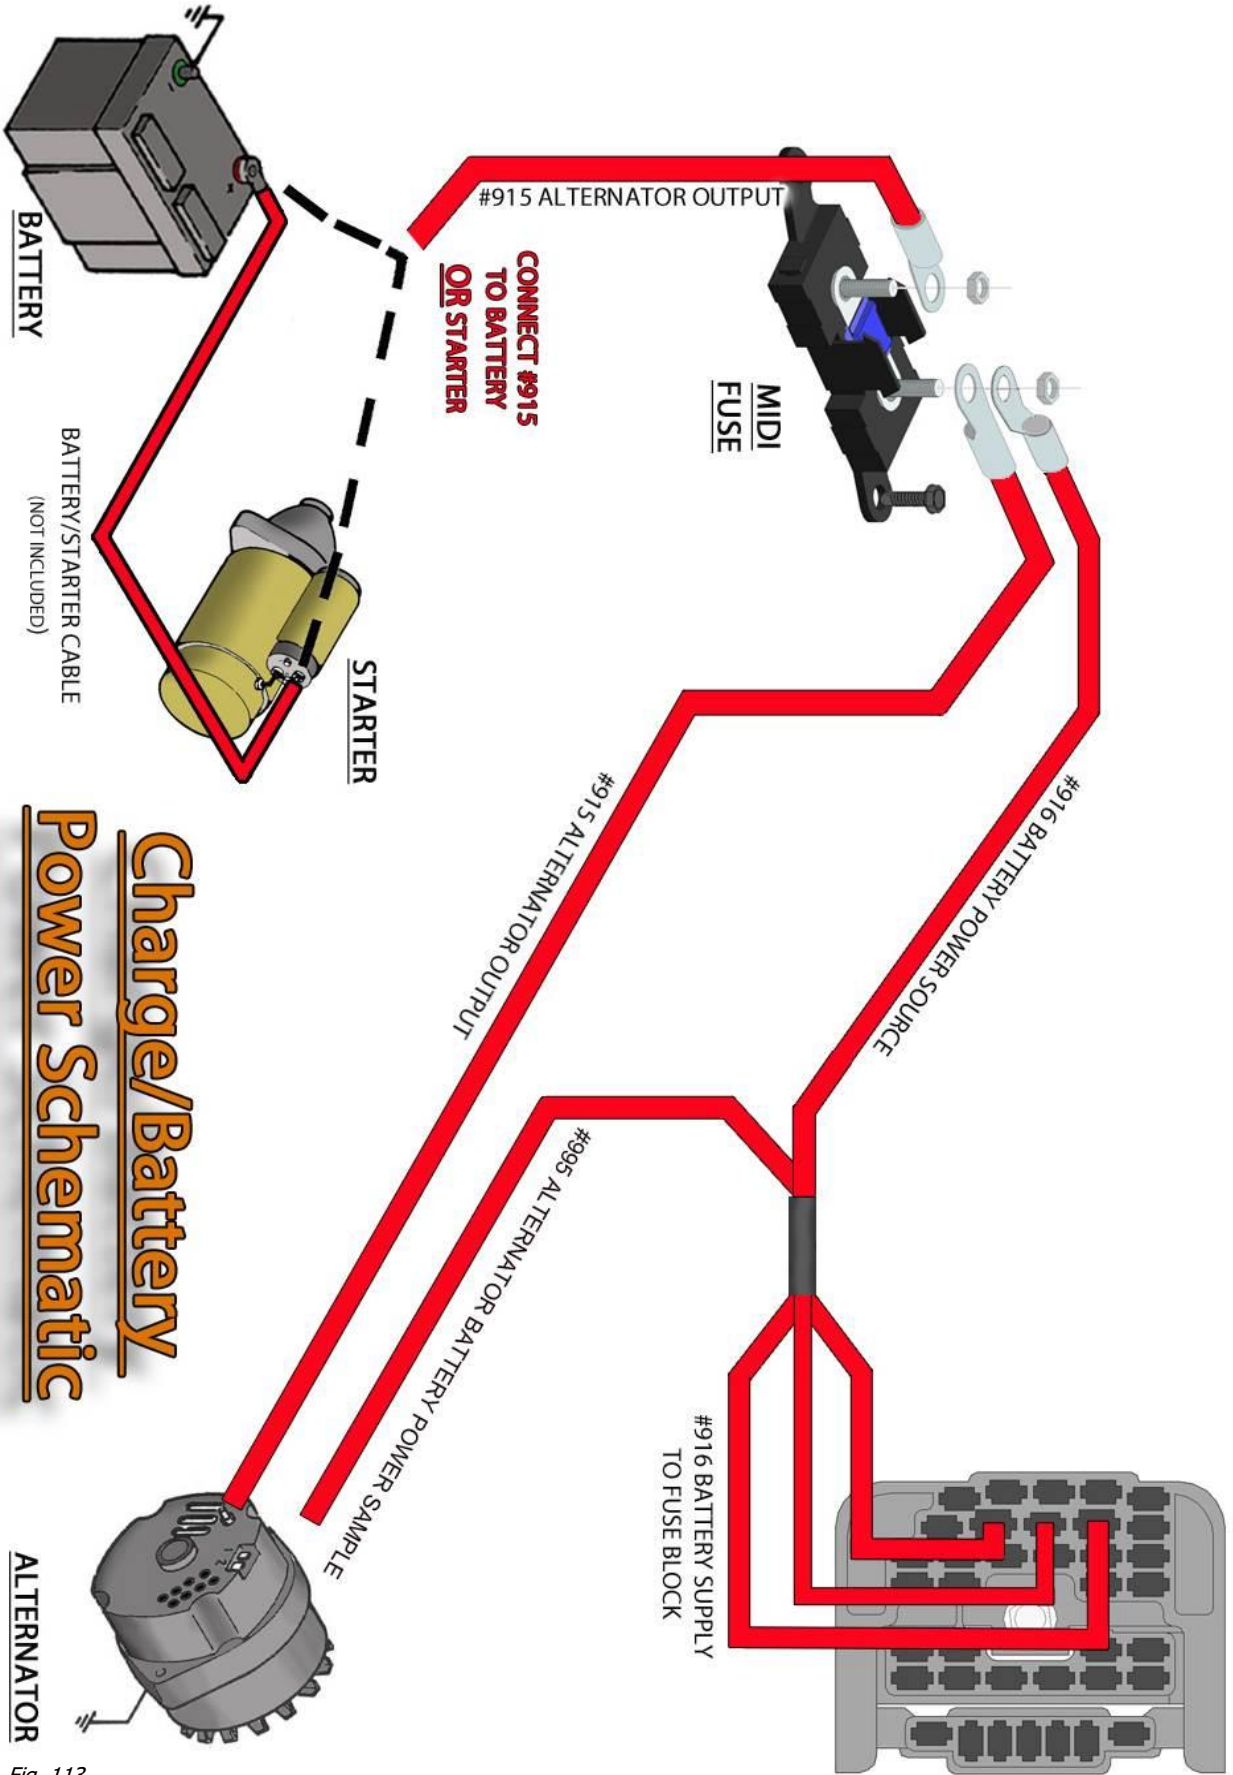

Fig. 113
Red: 14-gauge wire, printed **#995 ALTERNATOR BATTERY POWER SAMPLE**. This wire provides a battery power source, or amperage sample, that some alternator voltage regulators require. This wire has power at all times and comes from the large battery supply splice in the harness. **This wire is not be needed if you have a one-wire alternator or any of the CS series alternators** (see Charge/Battery Power Schematic on page 61; Fig. 113).
Red: 6-gauge wire, with a label printed **#915 ALTERNATOR OUTPUT**. This wire provides power out of the alternator to the chassis harness and back to the battery through the MIDI fuse (see Charge/Battery Power Schematic on page 61; Fig. 113).
- Connection to both sides of the fuse holder are made using the large ring terminals with the small #10 hole provided with the kit. You can use a pair of pliers if your crimpers do not accept this large-gauge wire/terminal. The heat shrink supplied with this kit is intended to cover the crimped end of each of these two ring terminals (see Charge/Battery Power Schematic on page 61; Fig. 113).
Red: 8-gauge charge wire, with the label reading **#916 BATTERY POWER SOURCE**. This wire feeds the harness, fuse block, and ignition switch battery power (see Charge/Battery Power Schematic on page 61; Fig. 113).
- Install this wire along with the **#915** wire coming from the alternator to the same side of the fuse holder. This is the opposite side of the holder from the wire going to the starter or battery (see Charge/Battery Power Schematic on page 61; Fig. 113).